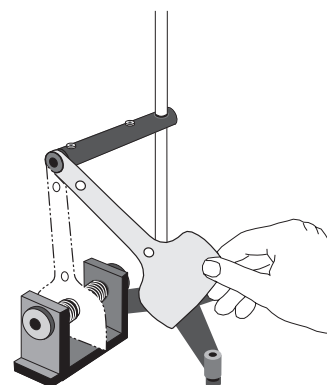

Figure 6
- ③ With the magnet in place, swing the paddle (Figure 6) to show that the oscillations are now damped because of the induced eddy currents in the moving paddle.